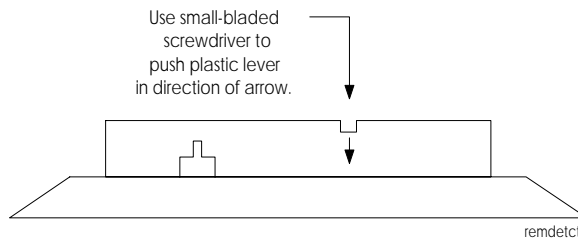

Figure 5: Removing the Detector Head from the Base
2. Insert a small screwdriver into the notch (Figure 5).